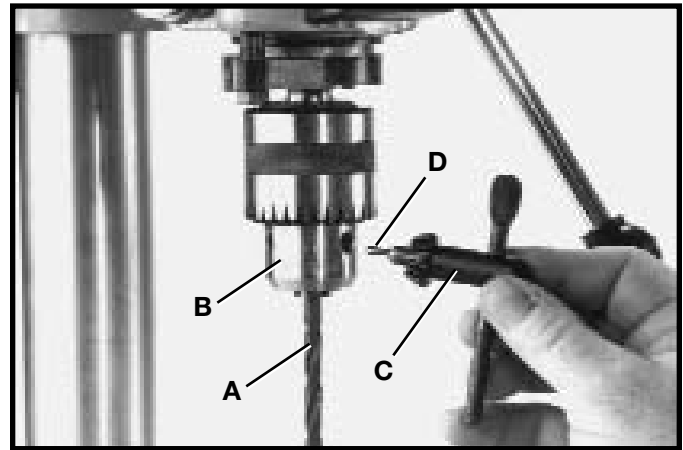

Fig. 31
1. Insert smooth end of drill bit (A) Fig. 31, as far as it will go into the chuck (B), and then back the bit out 1/16", or up to the flutes for small bits.
2. Make certain that the drill bit (A) Fig. 31, is centered in the chuck (B) before tightening the chuck with the key (C).
3. Turn the chuck key (C) Fig. 31, clockwise to tighten and counterclockwise to loosen the chuck jaws.
5. **MAKE SURE** chuck key (C) Fig. 31, is removed from chuck before starting drill press. Your chuck key (C) is equipped with a self-ejecting pin (D) which eliminates the hazard of the key being left in the chuck.